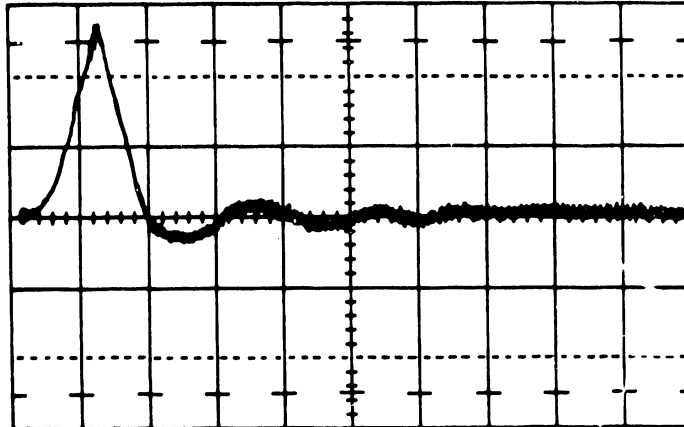

FIGURE 4-25 FINE VELOCITY GAIN FINAL CHECK WAVEFORM
- b. Connect and setup the oscilloscope as indicated in Figure 4-25.
- c. Referring to Figure 4-25, note that the displayed signal settles out with a maximum overshoot of less than 0.5V. If overshoot exceeds this value, adjust the middle pot on card in A20 to obtain the ideal waveform shown in Figure 4-25.
- d. Command sequential forward seeks from cylinder 000 through 1466 (366) (performed in conjunction with a read).
- e. Note that the displayed signal is as shown on Figure 4-25 at each cylinder. If overshoot exceeds 0.5V at any cylinder, adjust the middle pot on card A20 until the signal is within specifications.